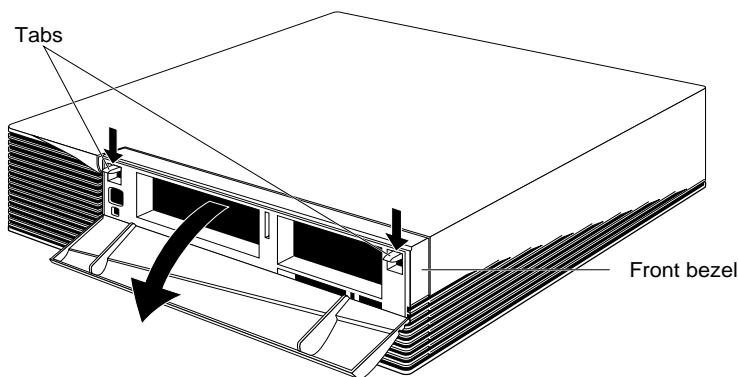

Figure 3-2 Removing the front bezel from the Indigo² chassis
- Press down on the tabs on each side of the bezel, as shown in Figure 3-2.
- Pull the bezel down and away from the chassis, as shown in Figure 3-2.